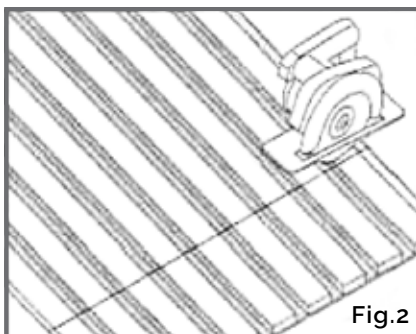

Fig.2
- Cut the panel to length with either a circular saw or a hand saw along the marked line. Ensure a steady hand for a smooth straight cut. (fig. 2)